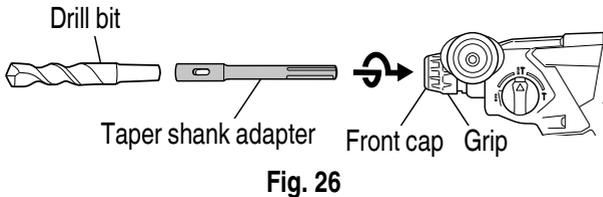
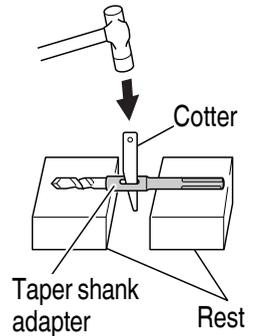

Fig. 26
Fig. 27
- (1) Mount the taper shank adapter to the rotary hammer. (Fig. 26)
- (2) Mount the drill bit (taper shank) to the taper shank adapter. (Fig. 26)
- (3) Turn the switch ON, and drill a hole in prescribed depth.
- (4) To remove the drill bit (taper shank), insert the cotter into the slot of the taper shank adapter and strike the head of the cotter with a hammer supporting on the rests. (Fig. 27)